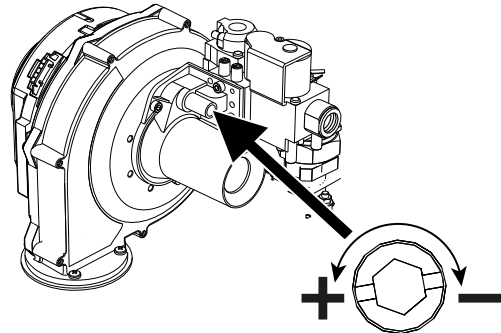

fig. 81- Maximum capacity adjustment screw
- If the values do not correspond to those indicated, adjust the CO₂ with the adjustment screw (see fig. 81), bringing them back to those indicated.